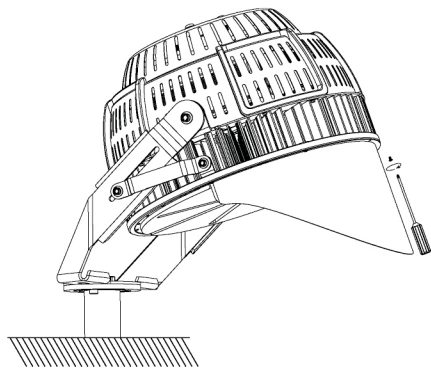

Figure 11
- Fix the light barrier to the luminaire with a screwdriver as required (figure 11)